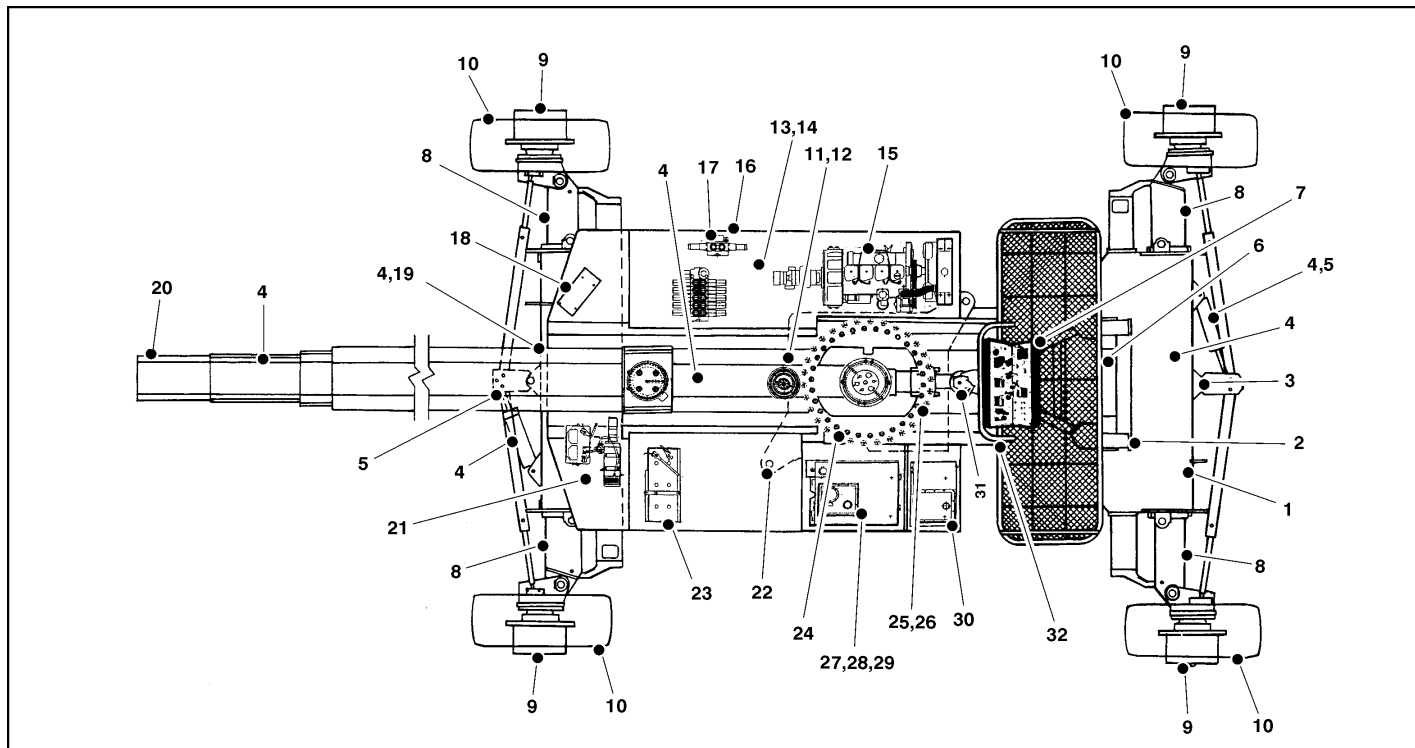

Figure 2-1. Daily Walk-Around Inspection - Sheet 1 of 4
5. **“Walk-Around” Inspection** – Refer to Figure 2-1. thru Figure 2-4.